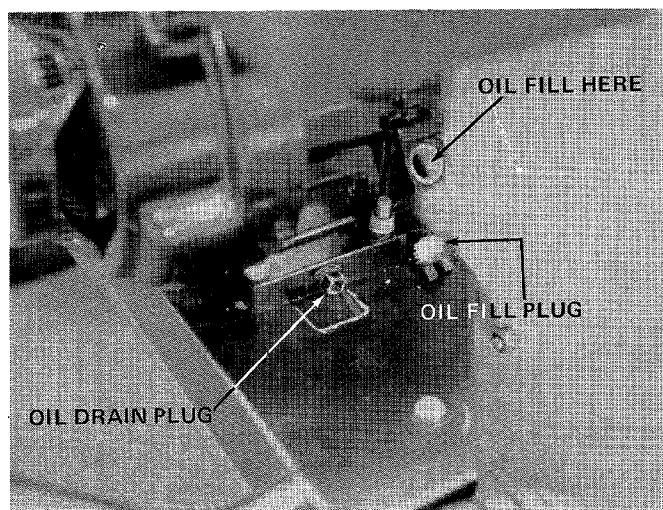

FIGURE 8
- Remove oil fill plug and fill crankcase with 1-1/4 pints S.A.E. No. 30 oil. See figure 8.